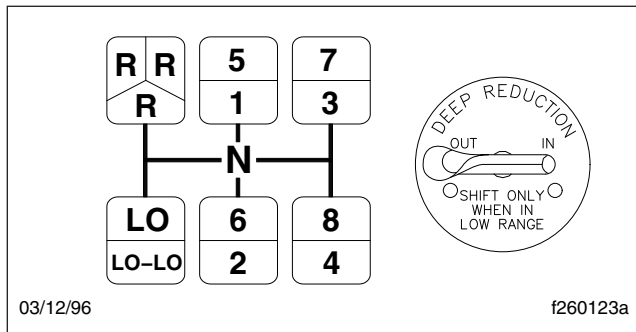

Fig. 15.6, Shift Pattern, Deep Reduction
Eaton Fuller deep-reduction models are not synchronized. They have a five-speed front section and a two-speed auxiliary section which has an extra deep reduction gear. The LO gear in the front section is used only as a starting gear. The other four ratios are used once in LOW RANGE and once in HIGH RANGE giving eight highway ratios. LO-LO is selected by the DEEP REDUCTION lever on the dashboard. See Fig. 15.6 for the shift pattern.
1. Position the gear shift lever in neutral. See Fig. 15.6 for the shift pattern. Start the engine, and bring the air system pressure up to 95 to 125 psi (655 to 862 kPa).